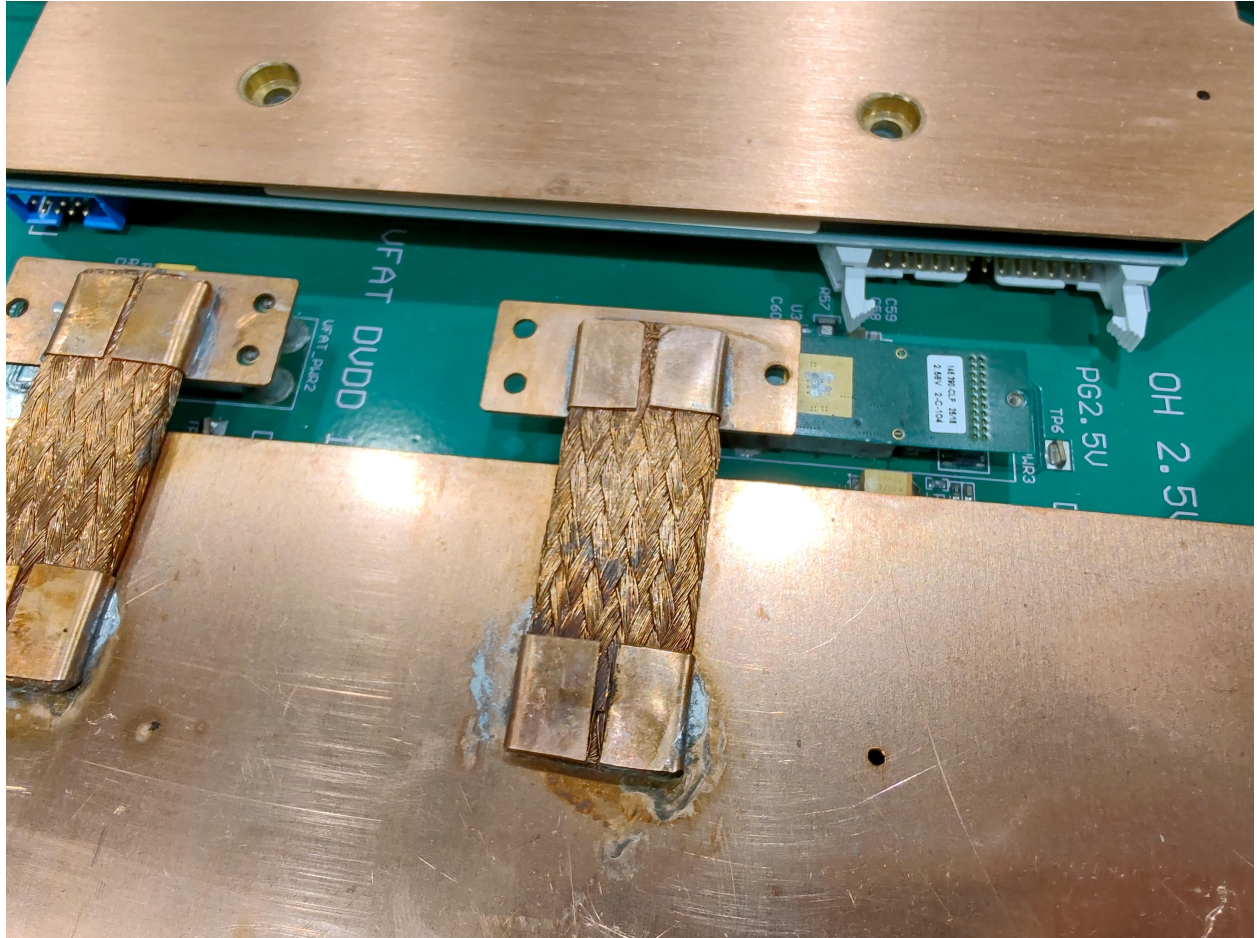

Figure 5: The copper cooling plate for the 2V5 FEAST on the M6 module.
- The 2V5 FEAST on the M6 module is not aligned at all (see Fig. 5).